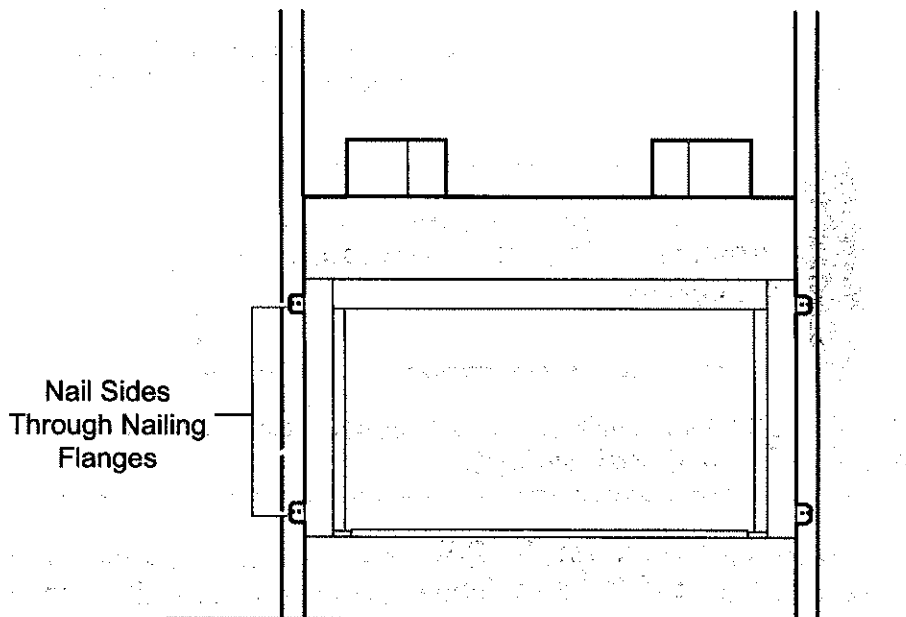

Figure 14 - Location of Nailing Flanges
4. Anchor firebox to the side framing members using 8d nails or other suitable fasteners. *See Figure 14.*
A canopy is furnished with each firebox and **MUST** be installed for safe operation. See *Figure 14*.